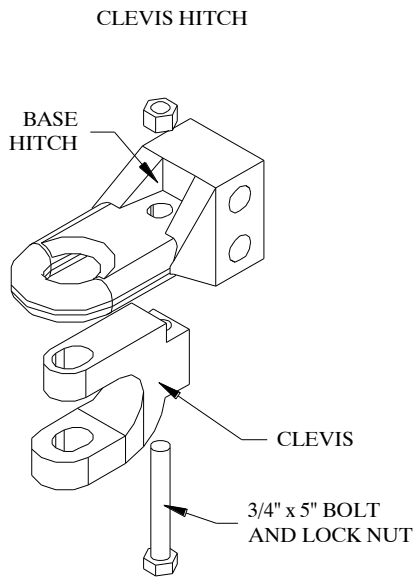
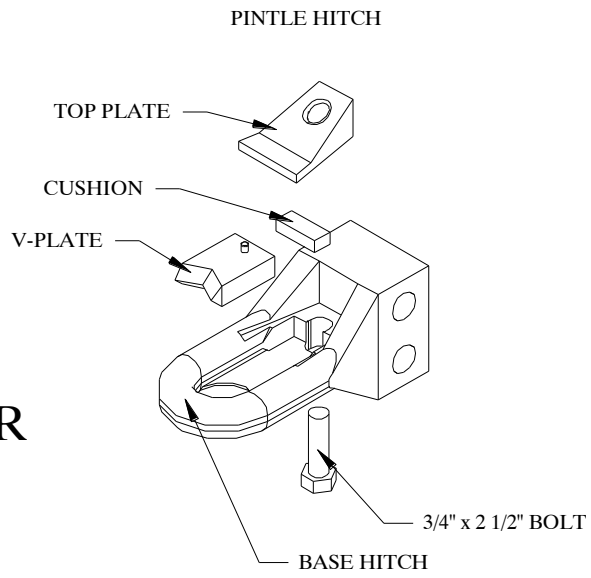

Figure 2
Figure 3
6. Assemble either a clevis hitch (Figure 2) or a pintle hitch (Figure 3) as required by the tractor or towing vehicle. Note the opposite orientation of the base hitch for each hitch type. Attach the hitch assembly to the A-frame with two 1" x 6 1/2" bolts and locking nuts.